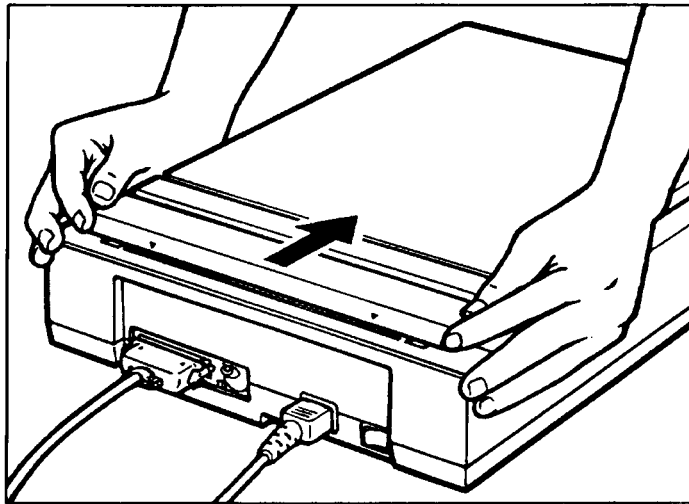

Figure D-2. Pushing Cover Forward
3. Slide the copyboard cover in the direction of the arrow in figure D-2 until it stops.